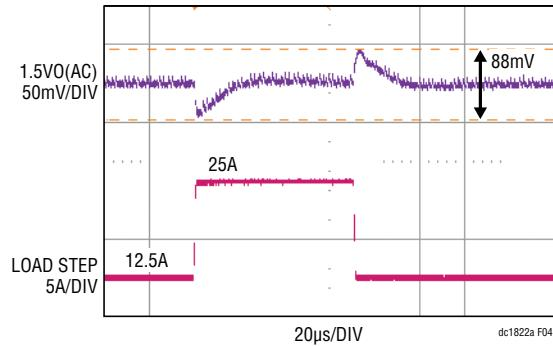

Figure 4. Load Step Response of the DC1822A 1.5V Rail at  $V_{IN} = 12V$ .
4. With the converter running, slowly increase the amplitude of the pulse generator output to provide the desired load step pulse height. The scaling for the load step signal is 10mV/Amp. See Figures 4 and 5 for transient response curves with a 50% load change.